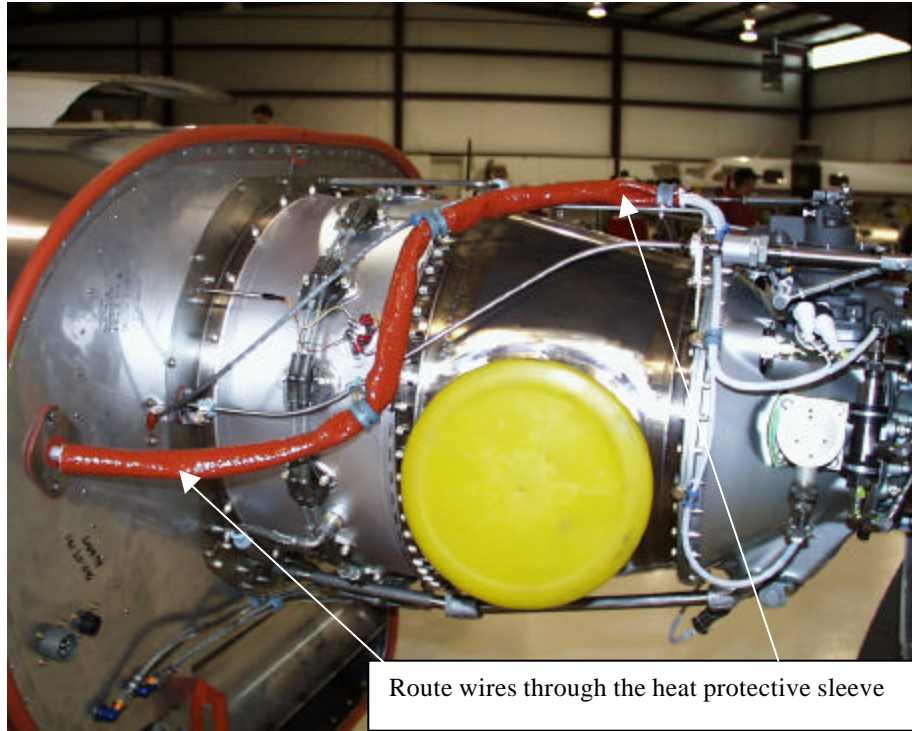

Figure 3. Wire Routing Around Hot Section
8. Be sure to route the wires through the heat protective sleeve around the exhaust (hot section) and as much as possible route along the wire bundle. The recommended routing for the new wires is as shown in Figures 3 thru 7.